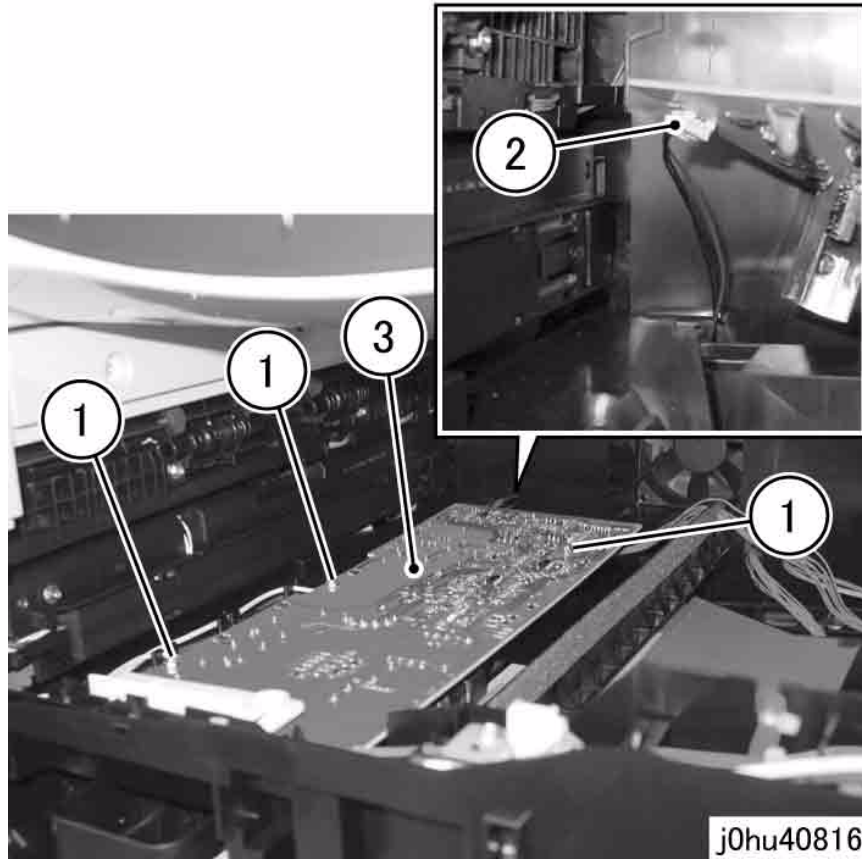

Figure 3 Remove HVPS and Contact Block
6. Remove the HVPS and Contact Block (Figure 3).